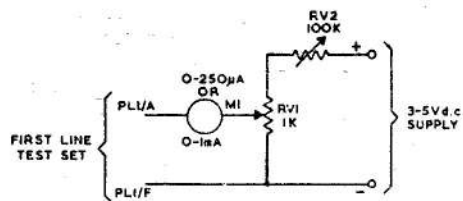

Fig. 6. Meter calibration test circuit
40. Connect the test circuit as shown in fig. 6 ensuring that the test circuit potentiometers RV1 and RV2 are adjusted to give minimum output on the test circuit meter.
42. Connect the test circuit as shown in fig. 6 using a 0-1mA meter in place of the 0-250 μA meter. Set M1 range switch (S1) to position 4 and switch S4 to the GYRO.
43. Reverse the terminals of the test circuit fig. 6 and still using the 0-1mA meter adjust potentiometer RV2 until the test set meter M1 reads, in turn, each of the readings indicated below. For each reading the test circuit meter should read within the limits indicated in the right hand column.